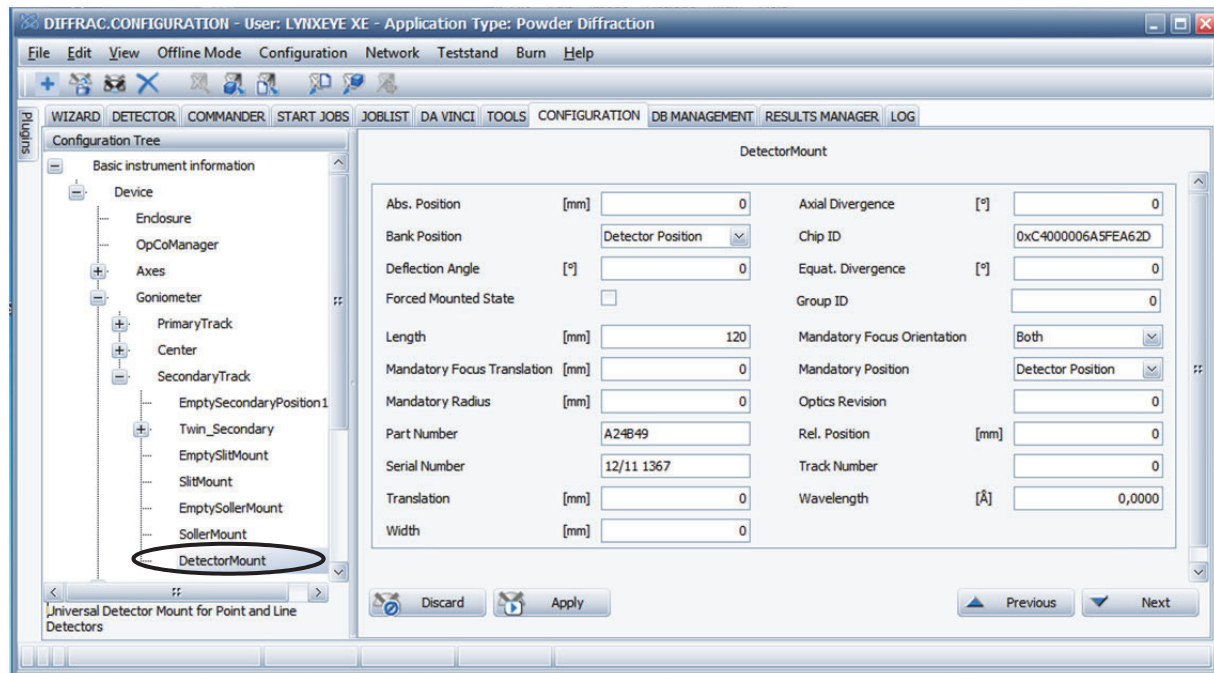

Figure 6.1: Detector menu in CONFIGURATION plugin before inserting the LYNXEYE XE template
1. From the main CONFIGURATION plugin, select the Secondary Track. A 'DetectorMount' is expected to be configured (Figure 6.1).